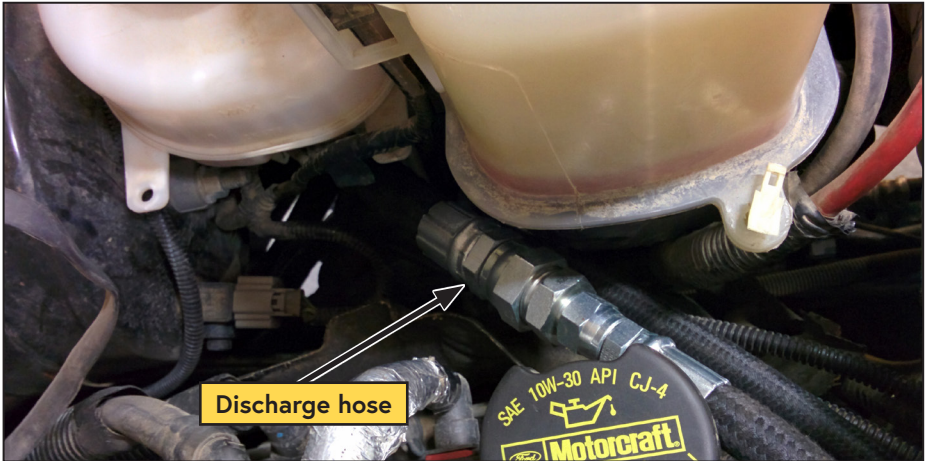

Figure 24 — Discharge hose assembly routing
- The discharge hose assembly should rest naturally near the coolant reservoir on the driver side of the vehicle (Figure 24).